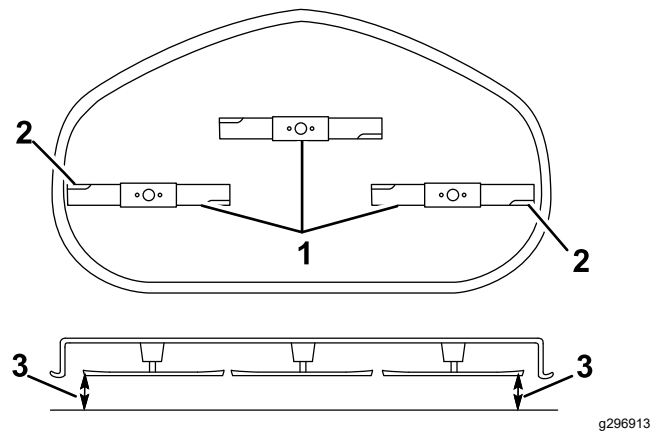

Figure 60
5. Measure between the outside cutting edges and the flat surface (Figure 60).